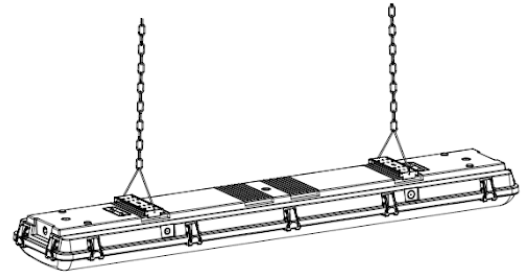

Fig. 6
1. Secure surface mounting brackets to housing (Fig.6).
2. Install the V-Hook on surface mounting bracket (Fig.6).